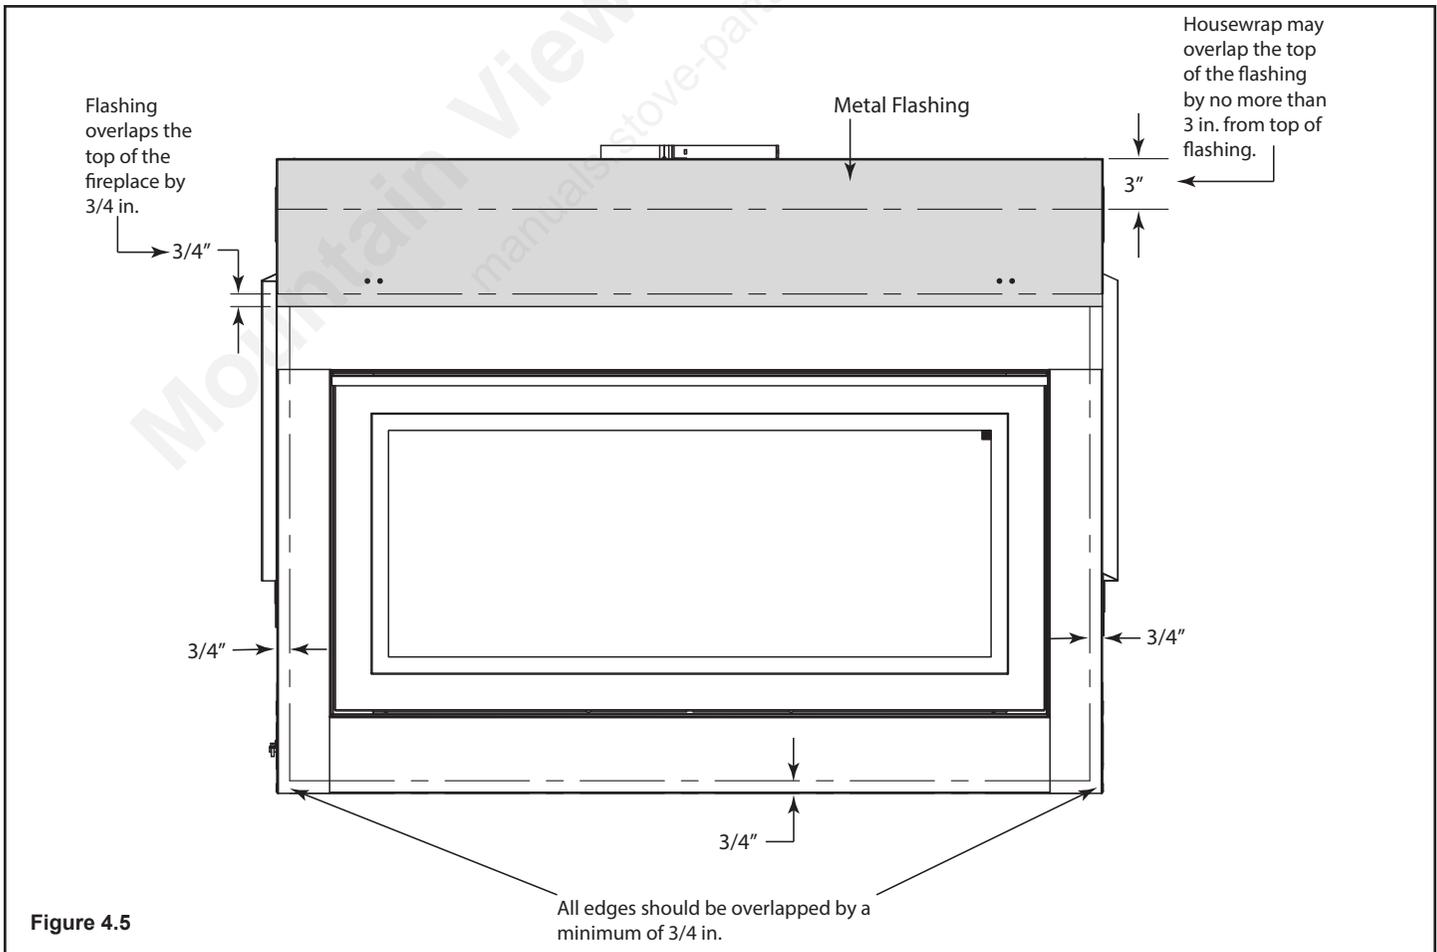

Figure 4.5
4. For placement of combustible housewrap or building paper see Figures 4.5, 4.6 and 4.6 (Note: Combustible housewrap or building paper MAY extend over the edge of the metal flashing by 3" from the top of the flashing. The sealant materials used beyond 3" from the top of the flashing must be approved to a minimum of 225° F continuous exposure.)